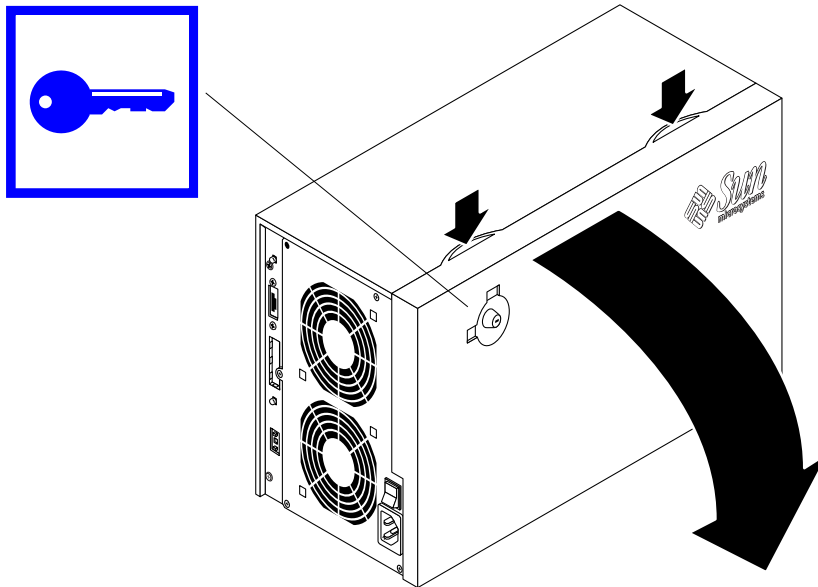

FIGURE 3-5 Opening the Drive Access Panel
1. Unlock the panel lock by turning the key 90 degrees clockwise.
2. Press on the two indentations on the top of the panel (FIGURE 3-5).